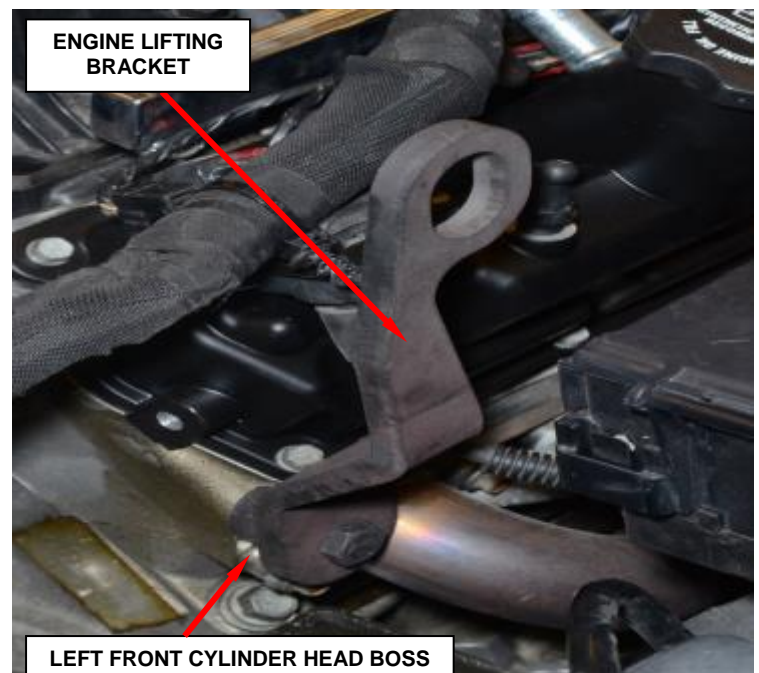

Figure 48 – Left Front Cylinder Head Boss
58. Install the Engine Lifting Bracket, Front 10034-1 to the left front cylinder head boss (Figure 48).
1. Install the Engine Lifting Bracket, Rear 10034-2 to the right rear cylinder head boss of the **NEW** engine long block (Figure 48).